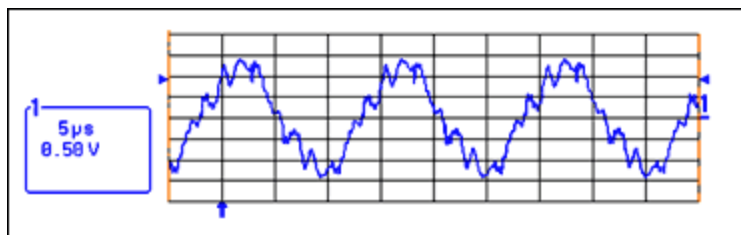
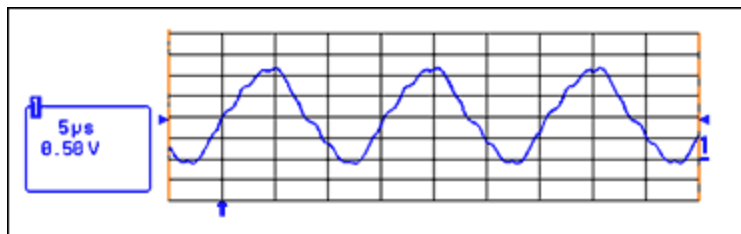
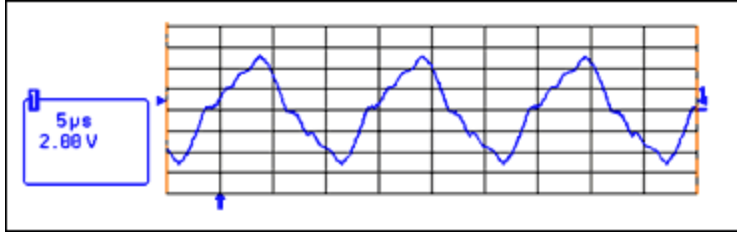
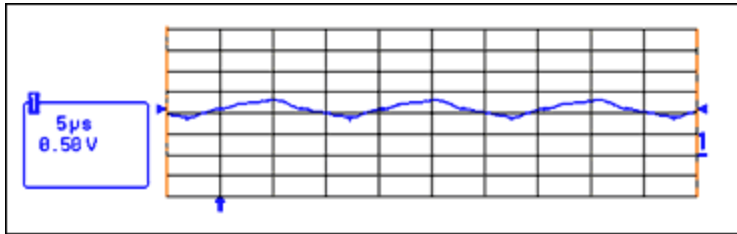

Figure 2. Lamp-current feedback resistor (RFB).
Figure 3. The DS3882's LCM input.
Figure 4. Lamp overvoltage capacitor divider before the resistor-divider.
Figure 5. The DS3882's OVD input.
**Figures 2 through 5** are typical waveforms captured when the DS3882 drives an LCD panel with two adjacent CCFL lamps sharing a common return. Figure 2 graphs the noise that exists across the RFB resistor. Figure 3 illustrates how the lowpass filter helps remove the noise to determine the true lamp-current signal. Figure 4 shows the middle of the capacitor divider before the resistor-divider, and Figure 5 shows the signal at the OVD input on the DS3882.